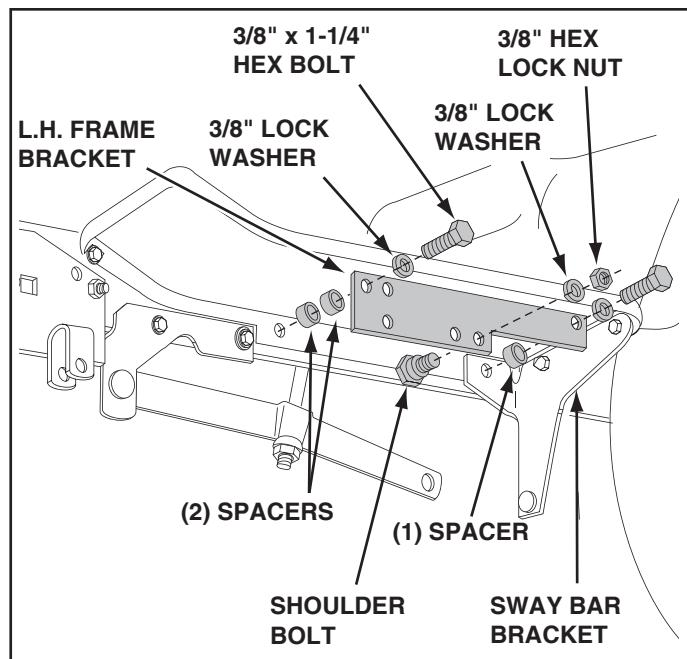

FIGURE 6
- Assemble a frame bracket to the L.H. foot rest and sway bar bracket as shown in figure 6. Use two 3/8" x 1-1/4" hex bolts, **three** spacers and two 3/8" lock washers.
- Assemble a shoulder bolt to the inside of the L.H. frame bracket, securing it with a 3/8" lock washer and a 3/8" hex lock nut. See figure 6.